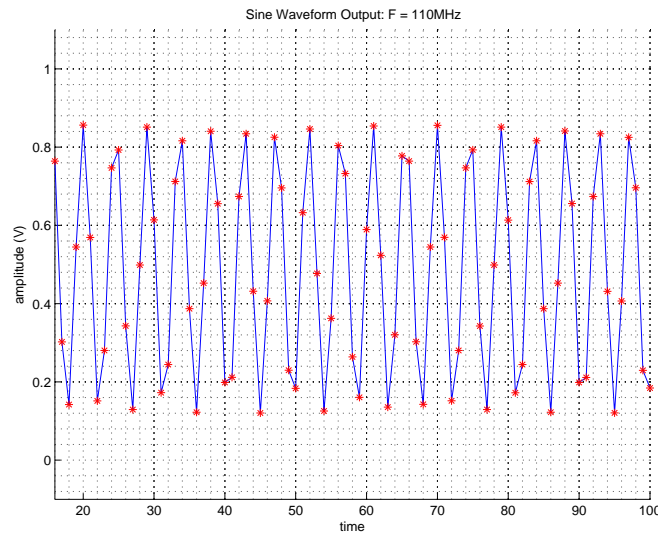

Figure 4.21: Measured: ADS5463 Digitized 110MHz Sine Wave; Time Domain
i. Sine Waveform @ F = 110MHz; Time Domain (See Figure 4.21.)